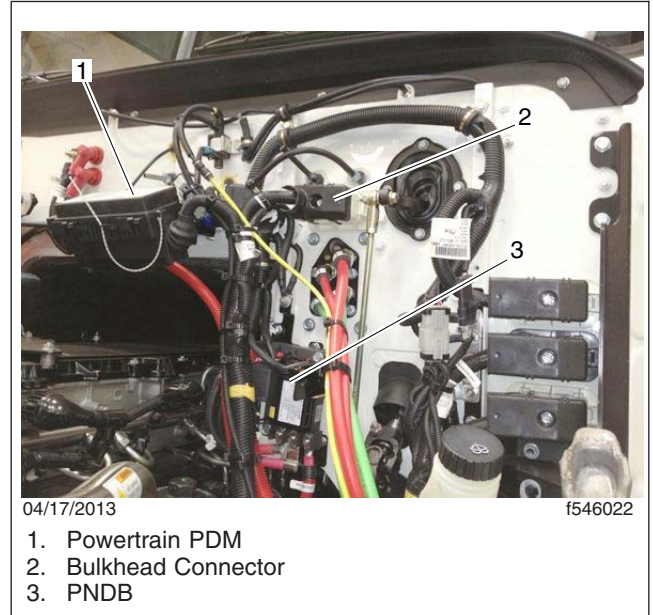

Fig. 3, Bulkhead Connector on the Engine Side of the Frontwall
- 2.12 Insert the terminal lock into the bulkhead connector, then connect the dash and engine side of the connector. See Fig. 3.